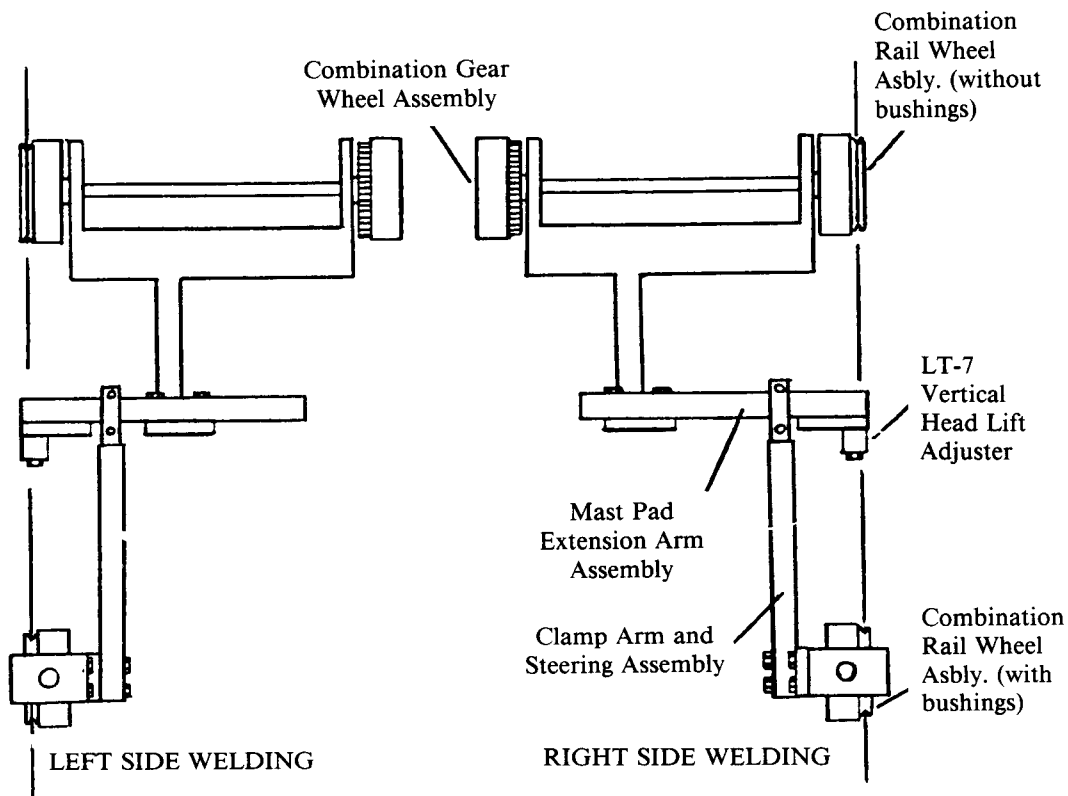

Figure 1
The K395 LT-7 is shipped set up for right side welding as per Figure 1. If left side welding is desired, or for left to right conversion, proceed per the following instructions:
a. Rear Wheel Configuration (refer to Fig. 1)
b. Front Frame Configuration (refer to Fig. 1)